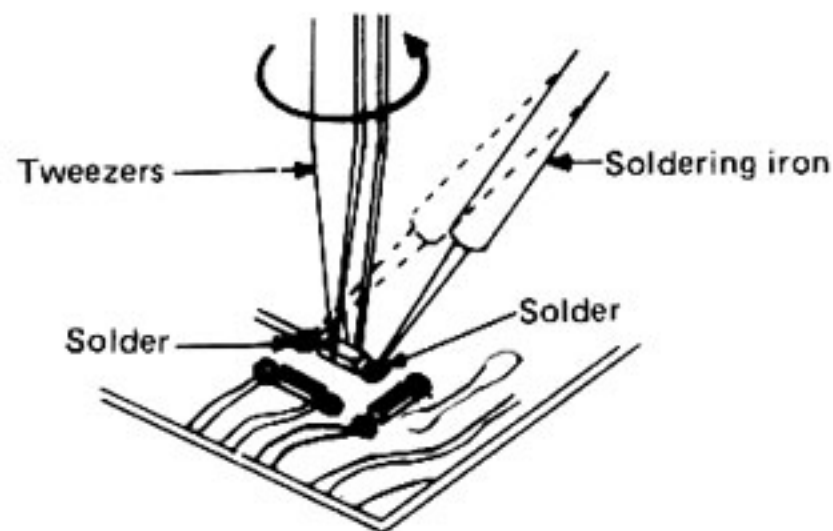

Fig. 18
2. Touch the soldering iron to the end of the chip as shown in Fig. 18, then turn the tweezers in the direction of the arrow.